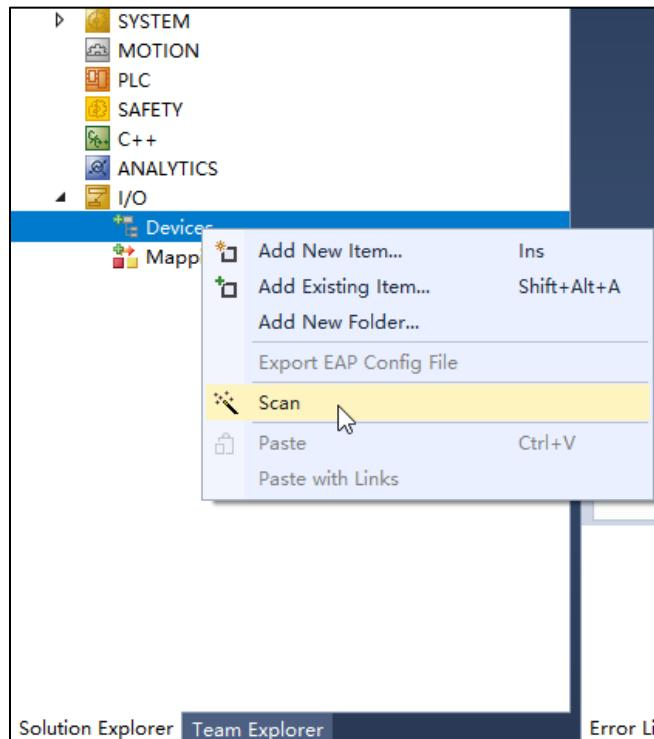

Figure 31: Scan Devices
- a. In Solution Explorer, right-click I/O > Devices, then choose Scan (see Figure 31 on page 94).